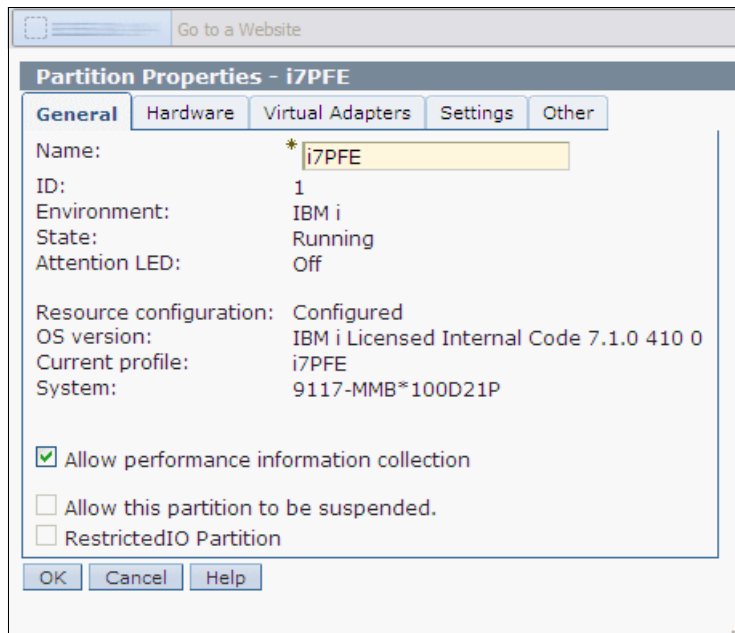

Figure 12-30 Allow performance information collection for IBM i
**performance information collection** must be enabled with the HMC within the IBM i partition's properties as shown in Figure 12-30.